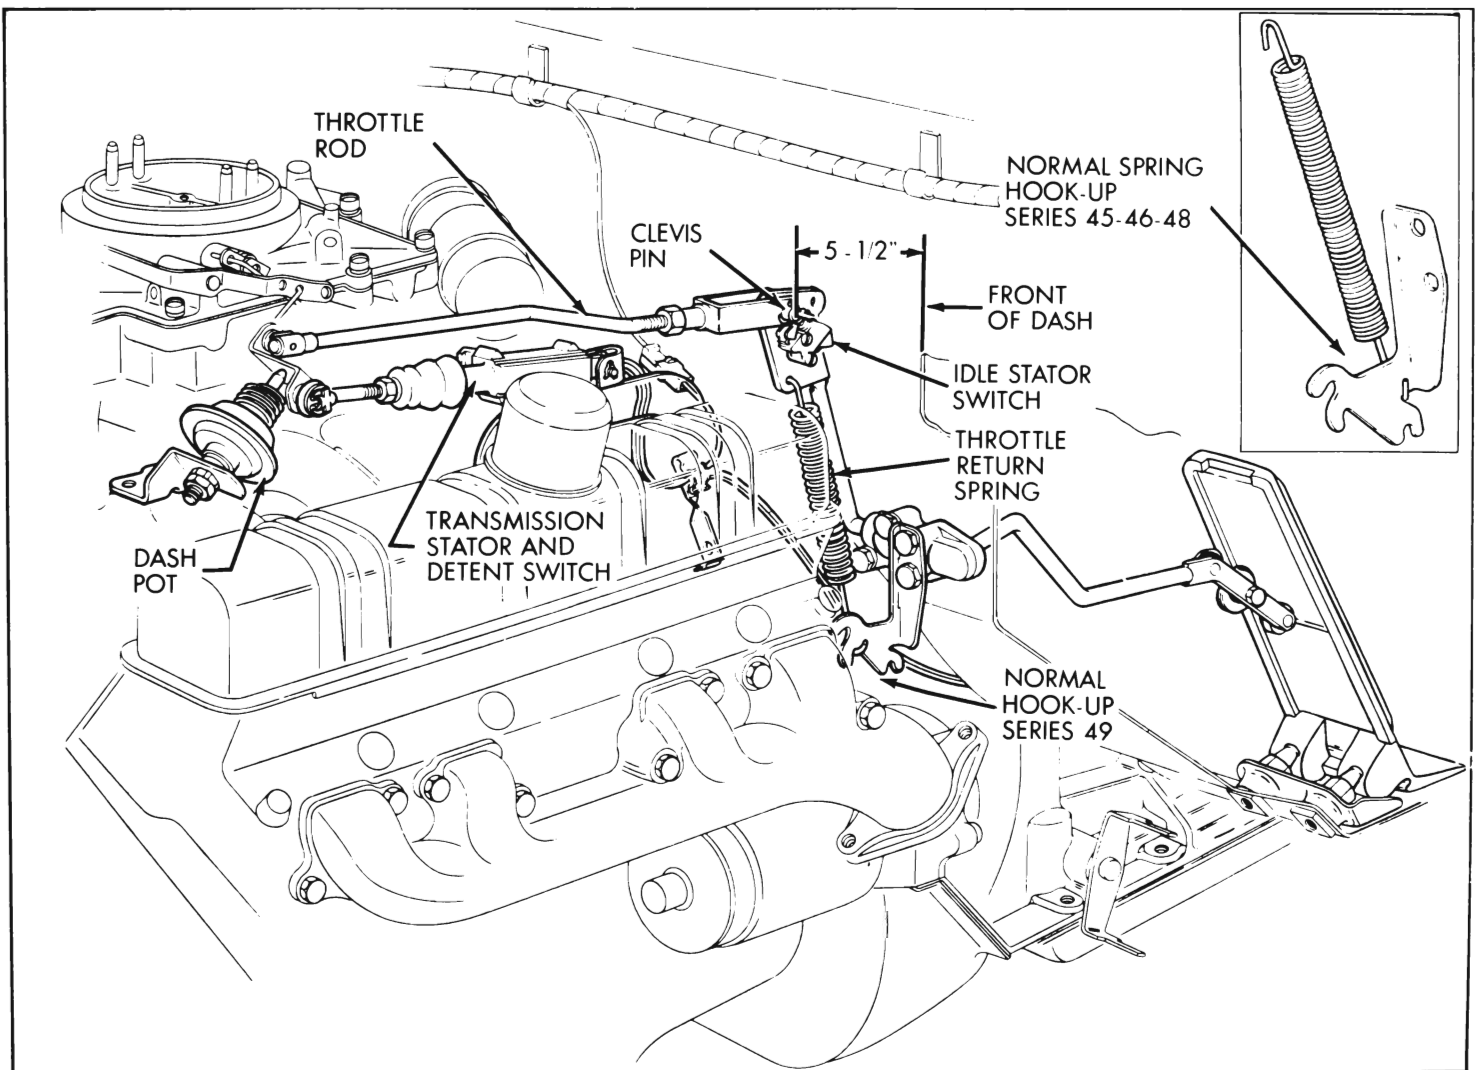

Figure 3-20—Throttle Linkage Adjustment
2. Adjust engine idle speed and mixture. See paragraph 3-8. With throttle linkage in hot curb idle position, measurement from throttle rod clevis pin horizontally to dash must be 5-1/2 inches \pm 1/4 inch. If measurement is off, shorten or lengthen throttle operating rod as required to correct. See Figure 3-20.